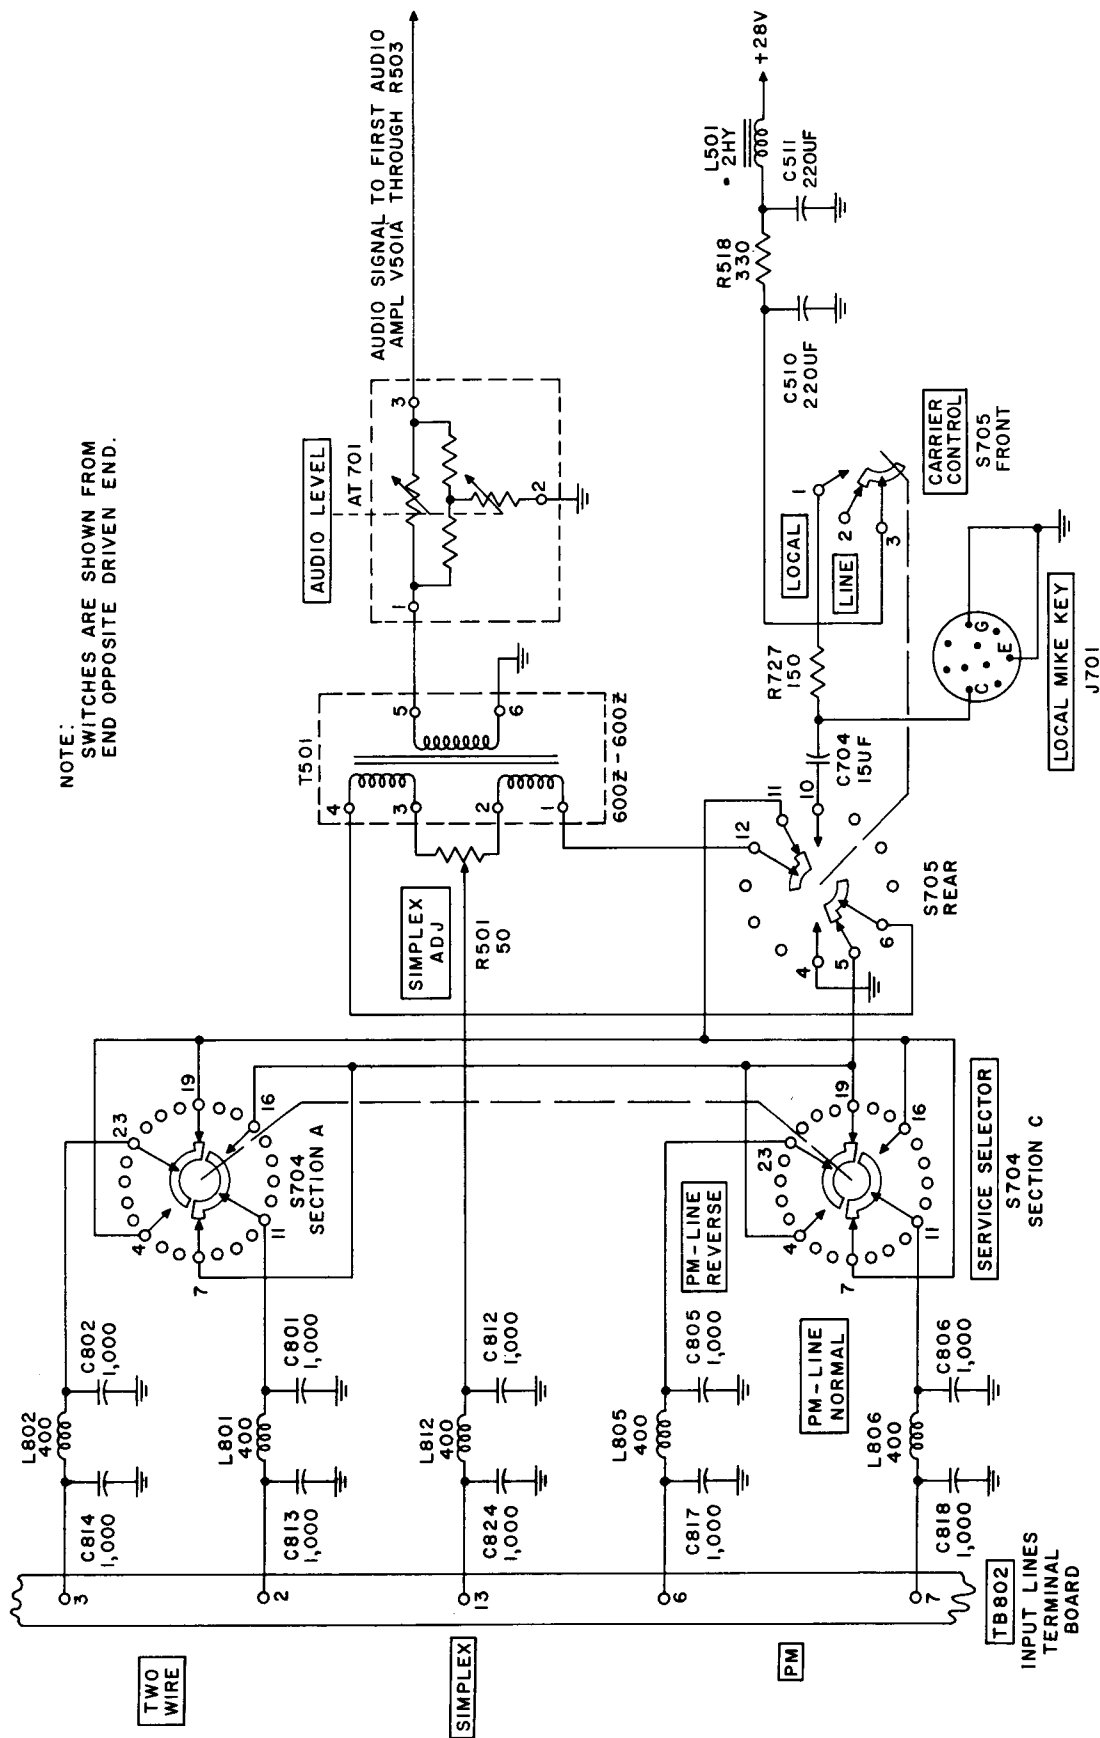

Figure 33. Phone input circuit for phase modulation, simplified schematic diagram.
65. Phone Input Circuit for Phase Modulation (fig. 33)